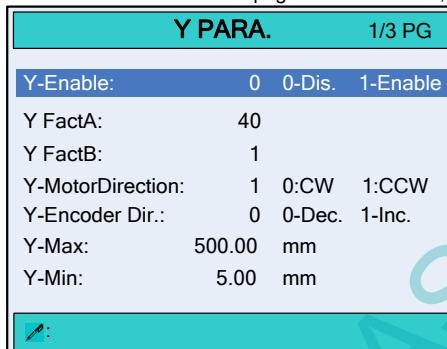

Figure 3-8 The first page of **Y PARA.**
On the **SYS PARA.** page, move the cursor to parameter **3.Y AXIS PARA** (or press the number key 3), and press to enter the first page of the **Y PARA.**, as shown in Figure 3-8.